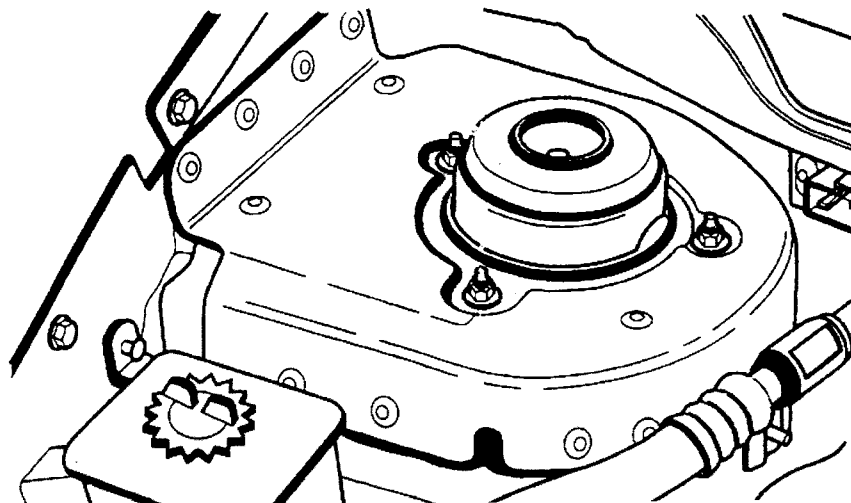

Fig. 7
19. Once installed, clean, sand, mask, prime, and paint the repaired areas necessary (Fig. 7).